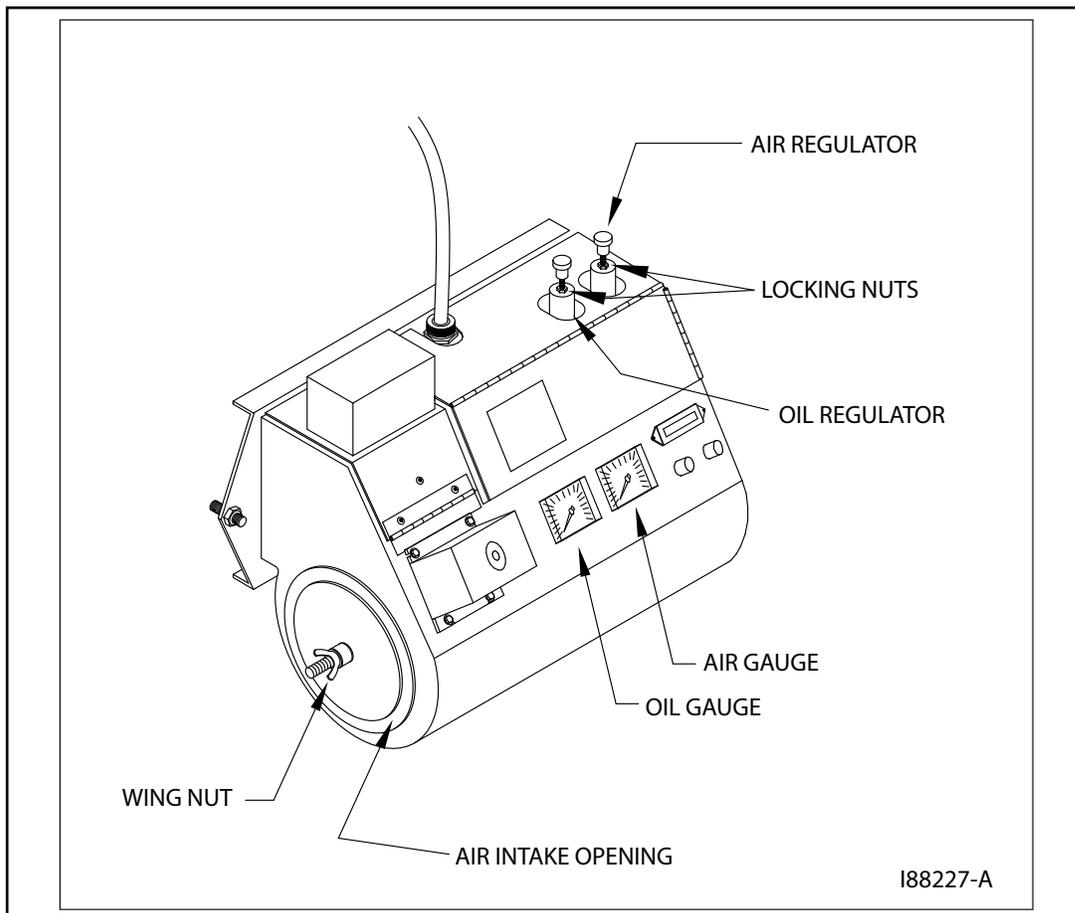

Figure 6B - Component Detail of the CB-550-S2 Burner for CB-5000 Furnaces
- Refer to **Figure 6B** to locate the air intake. Note that the CB-550-S2 burner has an adjustable air intake with a locking wing nut.
- Refer to Figure 6B to identify the air intake location on the burner.